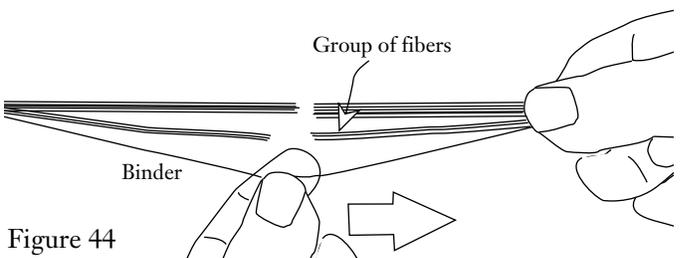

Figure 44
**7.34** Slide your finger along this binder and fibers while still tightly holding the groups of fibers with the opposite hand. This will cause the lay lengths of this group of fibers to decrease, making the fiber bundle evident (Figure 44).